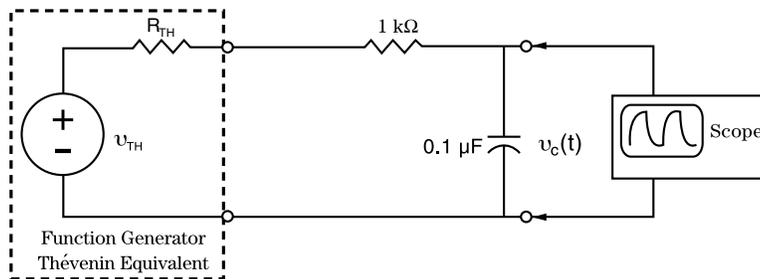
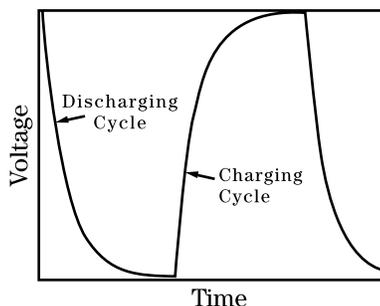

Figure 1
Figure 2
Assume the output resistance of the function generator (R_{TH} in Fig. 1) is 50 Ω . Do a CCA run on the circuit of Fig. 1. Use the transient analysis option and an 8 V_{pp} square wave source with no DC offset. You will need to determine an appropriate source frequency so that the voltage across the capacitor reaches its final value before the source changes to the next voltage level. The results of the CCA should look similar to Fig. 2. Print out the CCA results and tape them into your lab journal.
The equation describing the output $v_c(t)$ of the circuit of Fig. 1 is of the form:
Assume the function generator produces a square wave with a peak-to-peak voltage of 8 V, no DC offset ($V_{avg} = 0$ V), and a period T_o greater than $10T_c$. Under these circumstances the initial condition IC and the final condition FC will be equal to the maximum and minimum voltages of the source. In this case, the assignment of +4 V or -4 V to the initial condition IC depends on whether the *charging cycle* or the *discharging cycle* are being observed, as shown in Fig. 2. For the discharging cycle the initial condition IC =
Determine the output resistance of your function generator, R_{TH} . This value is usually printed on a label somewhere on the device. The Thévenin equivalent model of the function generator is shown in Fig. 1. Build the circuit of Fig. 1 on a protoboard.
a. Set the oscilloscope to display the waveform $v_c(t)$ produced by this circuit. The display should be similar to Fig. 2. A stable display on the scope is best achieved by triggering the scope with the sync output from the function generator. To do this, connect the sync output from the function generator to the EXT trigger input on the scope. Set the trigger sub-system to use the external signal for triggering.
Two different methods are suggested for computing the time constant of the circuit of Fig. 1.